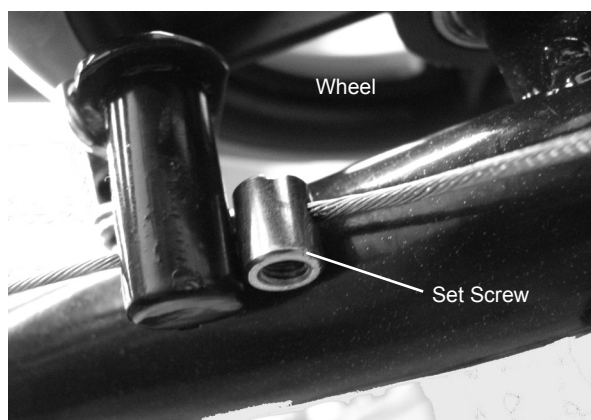

Figure 5
10. There may be a secondary brake cable tension adjustment that will have to be made as well. Use a 2mm Hex Key (not included) to loosen the set screw near then end of the brake cable just above the Wheel. See **Figure 5**, below.